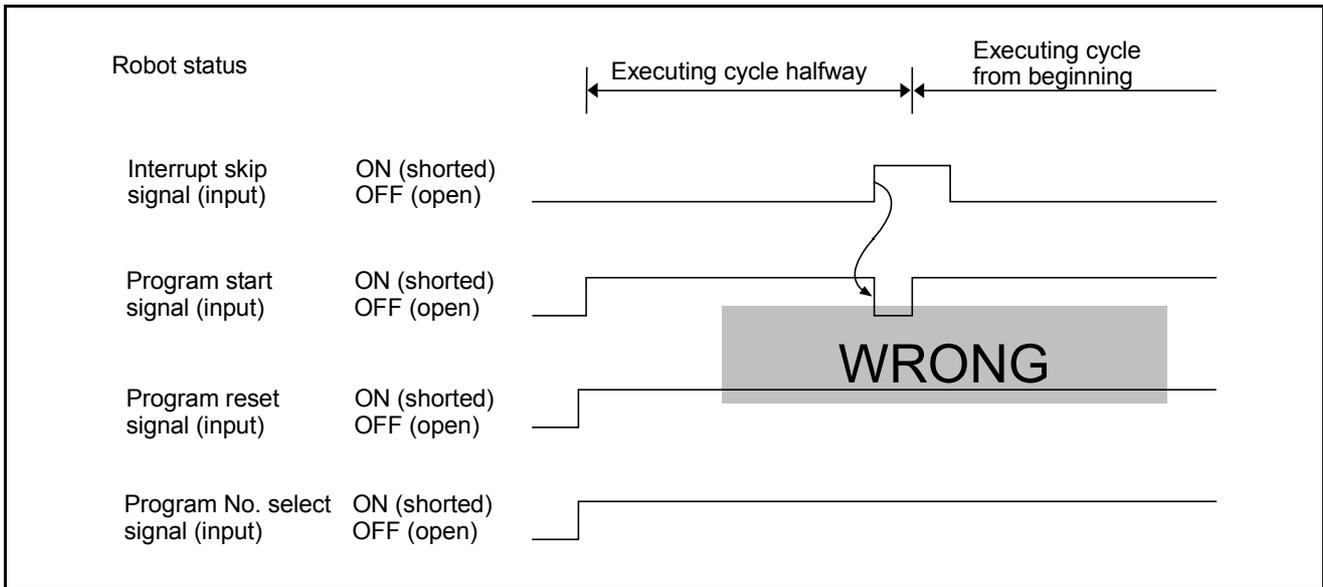

Figure 5-51 Example of Operation When an Interrupt Skip Signal is Input
**⚠ Caution:** When turning ON (shorted) the interrupt skip signal, at least either the program reset signal or the program start signal must be turned OFF (open). If the interrupt skip signal is turned ON, the robot interprets the program start signal as instantaneously turned OFF (open). Consequently, the program selected with the program No. select signal will be executed from the beginning. (See Figure 5-51.)